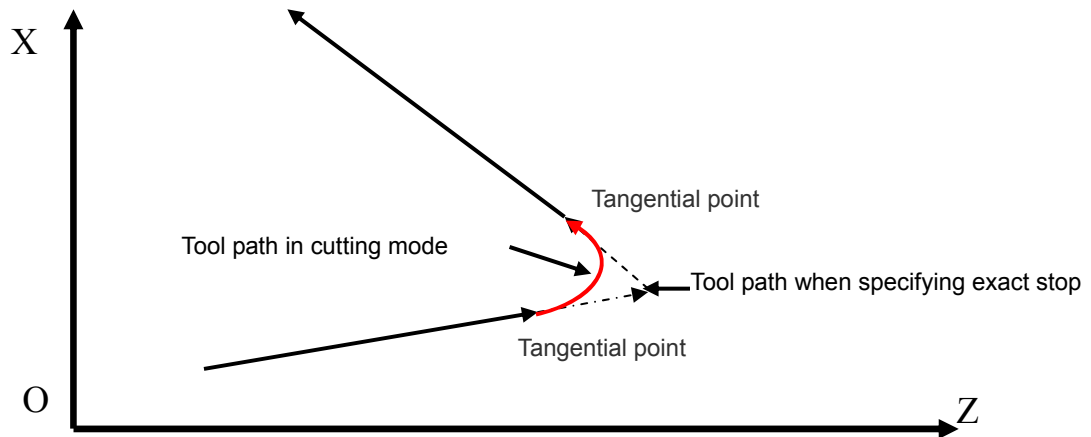

Fig. 2-27
2. G64 is modal, valid and default before G61 is executed. G64 path is different from that of G61 as Fig. 2-27;